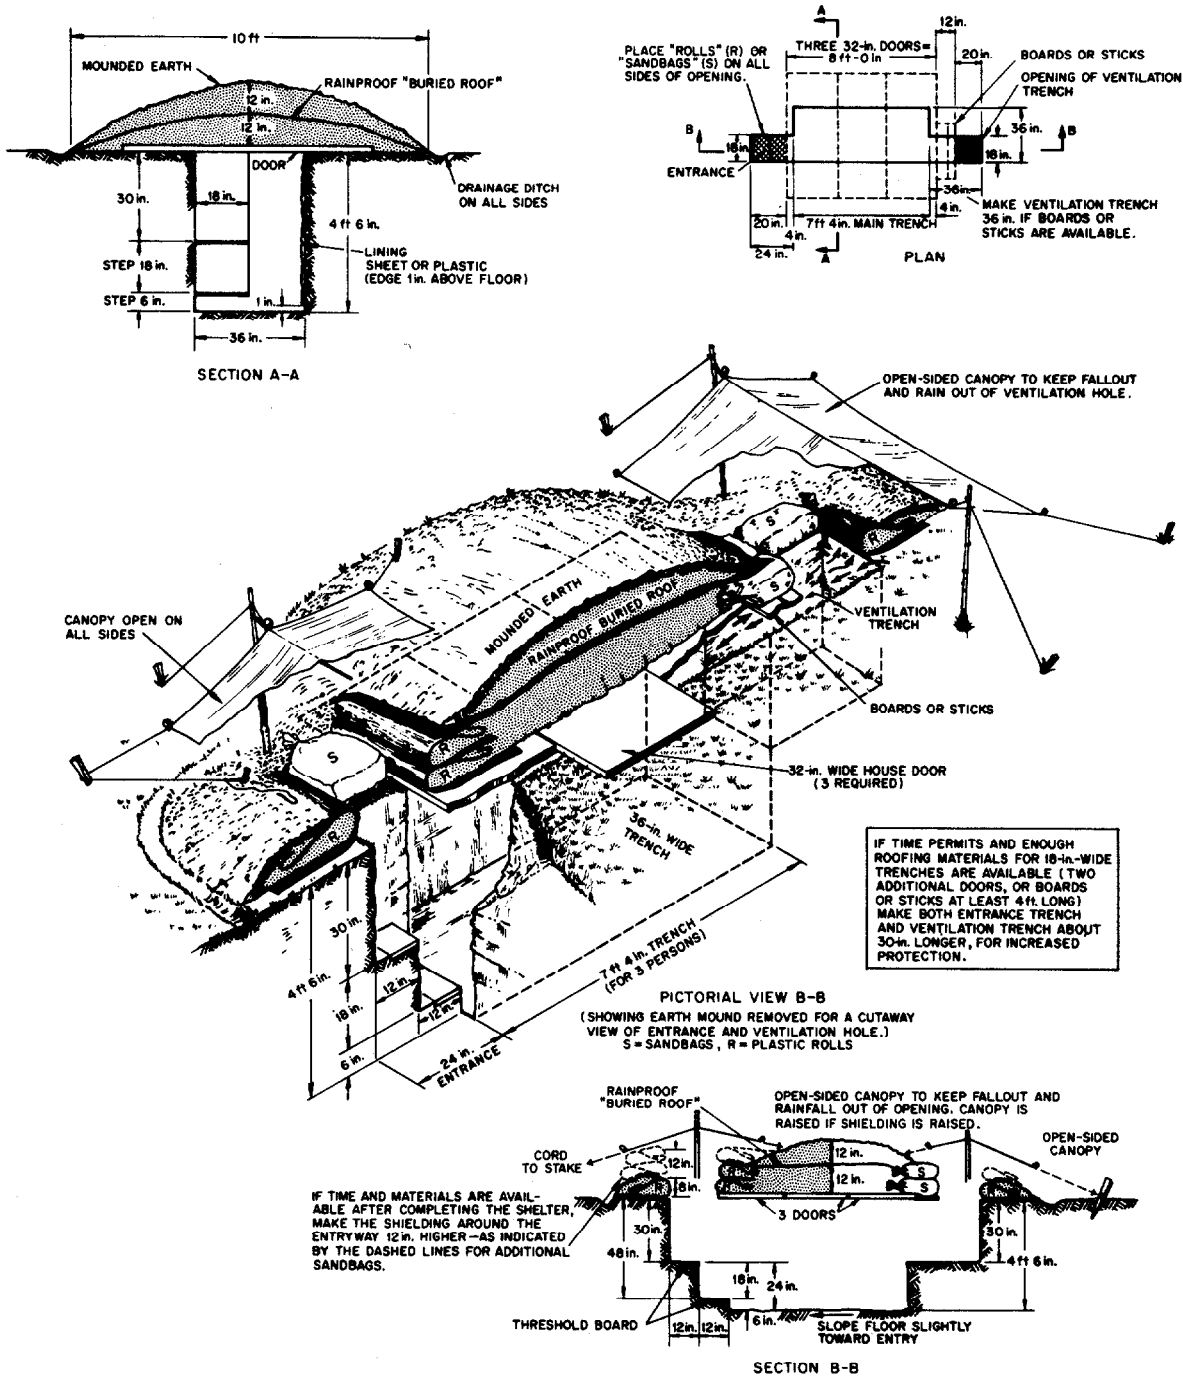

Fig. A.1. Door-Covered Trench Shelter.
10. Stake out a rectangular trench 36 in. wide, with its length as determined above. Also stake out the entrance at one end, as illustrated in Fig. A.1 at the end of Appendix A.1, and the ventilation trench and opening at the other.
- a. If the earth is *dry*, the easiest and best way to make a rainproof roof is to place the doors directly on the ground, with each of the end doors overlapping an end of the main trench by 4 or 5 in. (Be sure again to level the ground surface as you place each door, so that each lies flat against the ground all the way to the edges of the trench.) Next, mound dry earth over the doors. First place a few inches of earth on the doors near their ends; then mound it about 12 in. deep above the centerline of the trench. Slope the earth to both sides so as to just cover the ends of the doors. Next, smooth off the earth mound, being careful to remove sharp stones that might puncture rainproof materials. Then place waterproof material over the smooth mound, making the "buried roof" shown in Fig. A.1. Finally, carefully mound an additional 12 to 15 in. of earth on top of the buried roof, again placing it first over the doors near their ends. The earth over the trench should be at least 2 ft thick, so that effective earth arching will support most of the weight of the earth covering and will provide considerable protection if struck by blast.